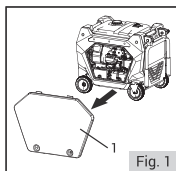

Fig. 1
1. Remove the cover (Fig. 1 - 1).